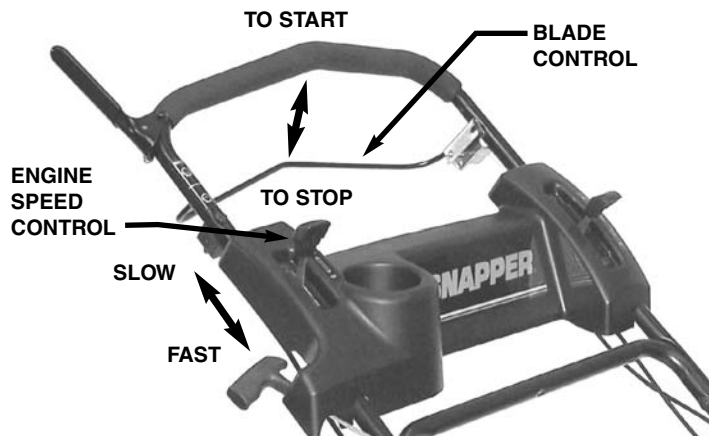

FIGURE 2.3
1. Move engine speed control past the "Fast" detent to the "Choke" position. See Figure 2.3.